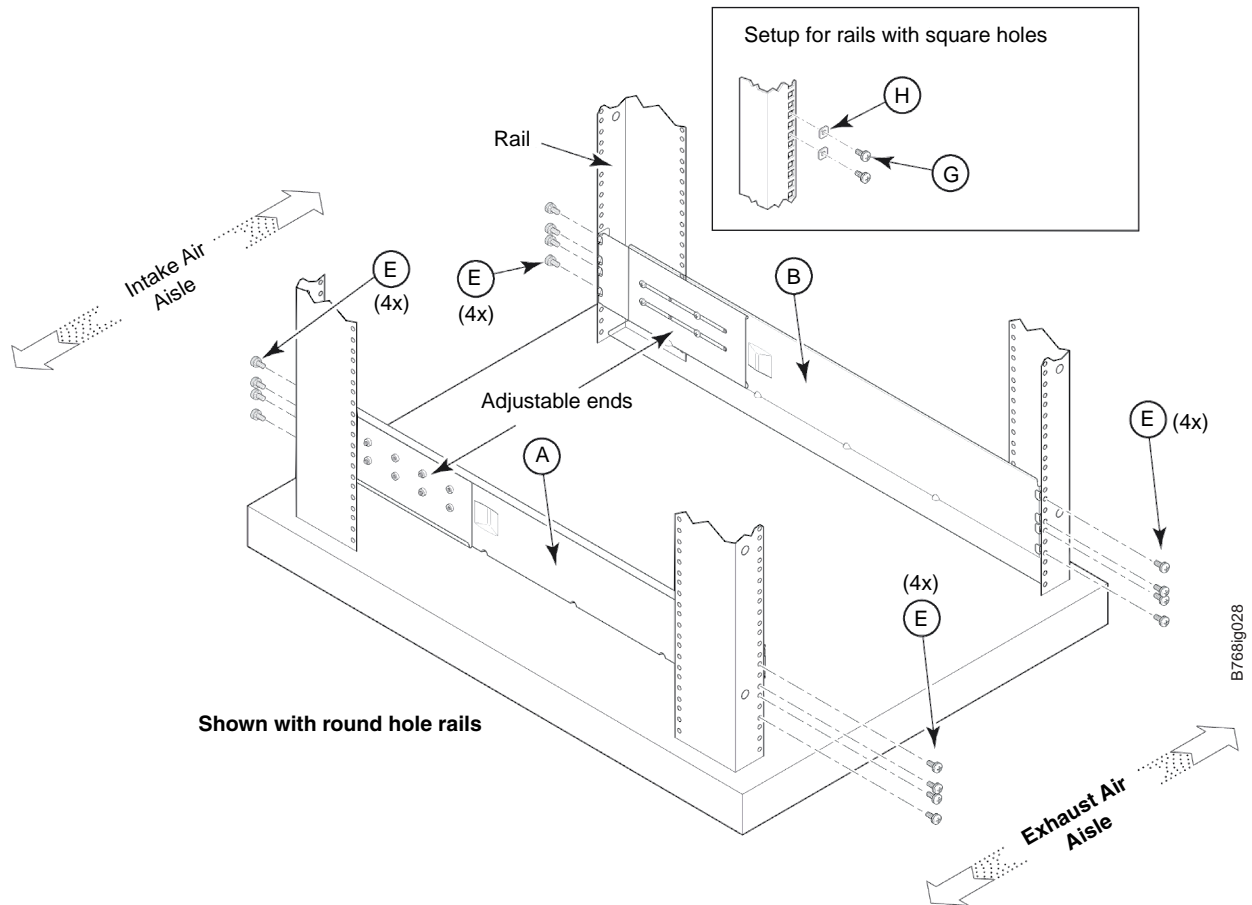

Figure 4. Left and right shelf brackets installed on the cabinet rails
1. Find the left and right rack mount shelf brackets ( **A** and **B** in Figure 4) in the 14U rack mount kit. These brackets are adjustable to allow for different cabinet depths.
3. Position the shelf brackets ( **A** and **B** ) with the adjustable ends at the intake aisle side of the cabinet (see Figure 4) and attach them to the cabinet rails.